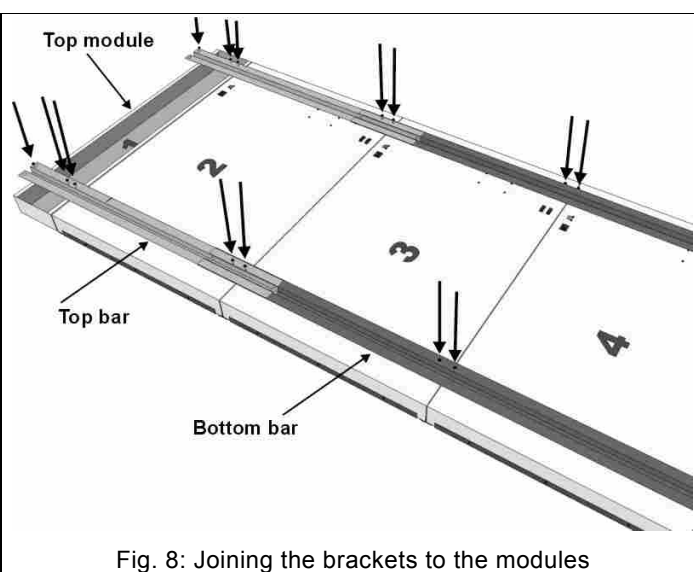

Fig. 8: Joining the brackets to the modules
3. Place the modules face down on the floor and in numerical order according to the numbers on the back of each (Fig.8), so as to assemble the desired panel (see various models in chapter 1). Then position the two brackets above the modules and align the holes. Using the screws provided and a Phillips screwdriver, fasten the brackets to the modules (Fig. 8).